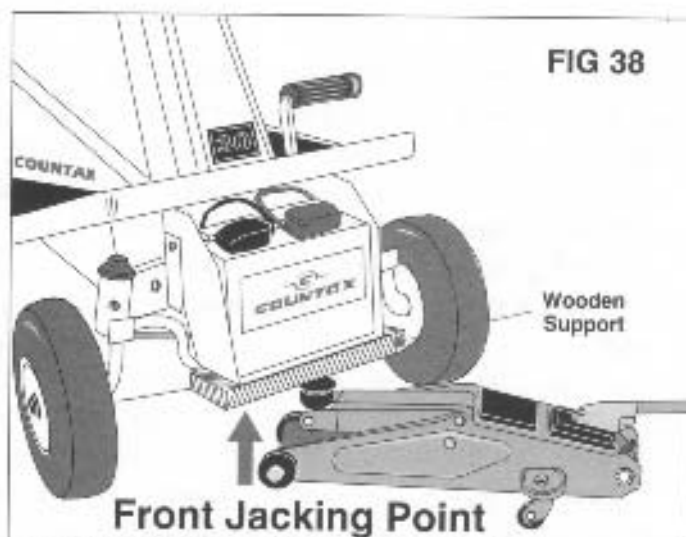

FIG 38
- 4/ Place jack under the Battery Tray insert a small plank of wood between tray and jack (fig 38) and jack up.